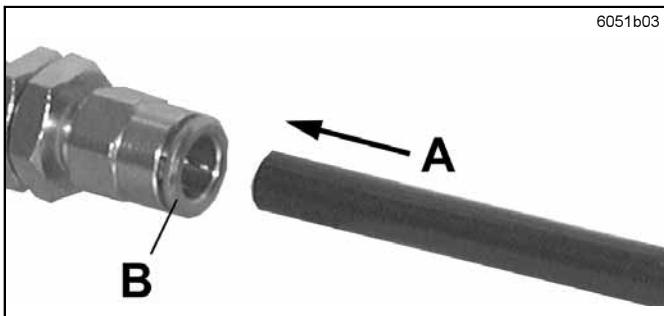

Fig. 2 Connection of Quicklinc connecting element and line
- Push the line in the direction of arrow A (Fig. 2) into the Quicklinc connecting element until it stops.